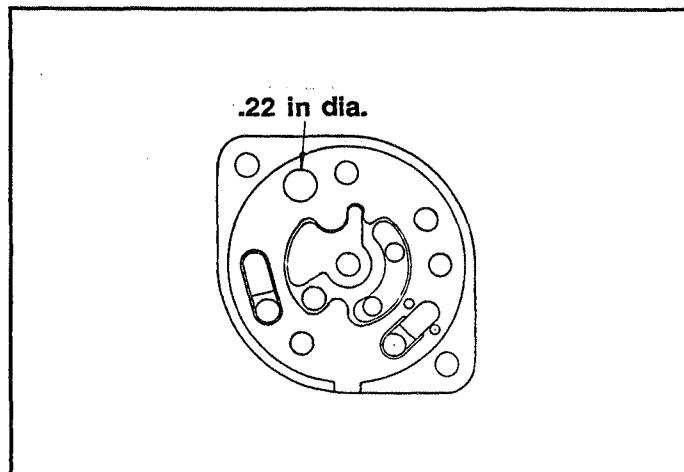

Figure 4. Current Support (1-2) Ignition/Starter Switches
- C. For all switches with start position, to ensure positive grounding of magnetos when in "OFF" position, old support (1-2) should be replaced with current design support (1-2) at customer's earliest convenience. Current design support includes oversize rivet head as shown in Figure 4. Current support (1-2) is identified with white paint mark on terminal lug side of support.